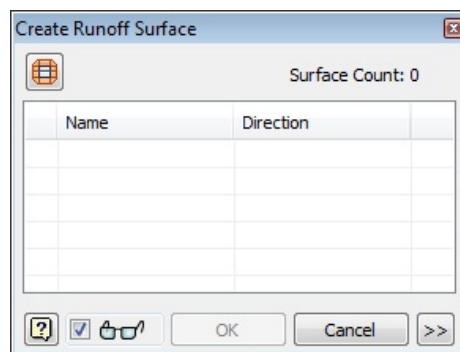

Figure 19-76 The Create Runoff Surface dialog box
1. Choose the **Create Runoff Surface** tool from the **Parting Design** panel in the **Core/Cavity** contextual tab of the **Ribbon**; the **Create Runoff Surface** dialog box is displayed, as shown in Figure 19-76.